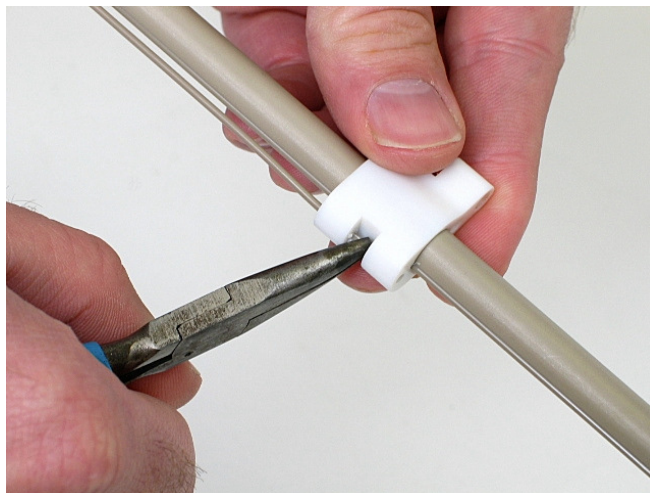

Figure 3. Crimping the Peek Tubing.
7. Crimp the exposed tubing in the opening of the slider (Figure 3).